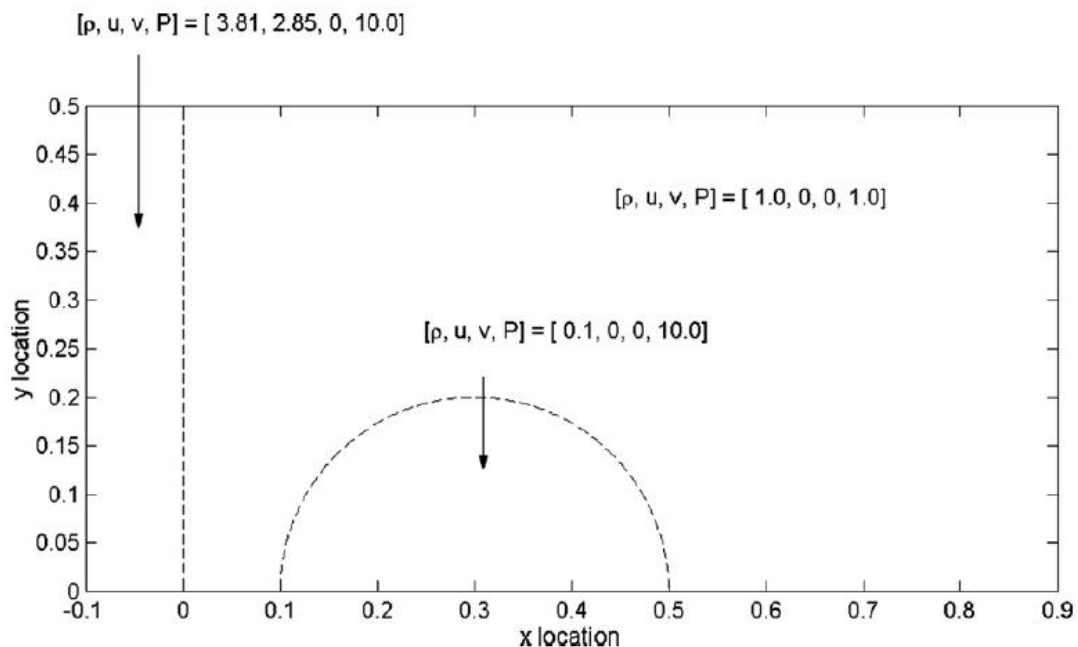

Figure 4: 2D Shock Bubble Interaction problem
5) Based on the solver developed in part (4), students should write a two dimensional compressible CFD solver to solve the shock bubble interaction problem shown in Figure 4. Students should write the code to be parallelizable using OpenMP and, if possible, GPU with CUDA. Students should show results after $t = 0.8$ using computation grids of 200×100 , 400×200 and 800×400 . Parallelization efficiency should be shown using 2, 4, 8 and 16 cores. This results should be shown during the 2nd progress report on the 2nd of December.
6) Using the CFD solver developed in part (5), students should write a three dimensional compressible flow solver to calculate flow around the X-37. This code should employ both OpenMP and CUDA for GPU parallelization. Students should report their results using at least 1 million computational cells. These may be Cartesian cells (i.e. a structured, rectangular grid), an AMR mesh or an unstructured tetrahedral grid. Results should be shown after the flow has reached a pseudo-steady state. The X-37 should have an angle of attack of 40 degrees, with an inflow velocity of 7000 m/s with a pressure and density corresponding to that of air at an altitude of 70 km.
7) Students should prepare a professional engineering report into the simulation of the X-37 as completed in task (6). This should include (i) a description of how the group solved the problem, (ii) a comparison of the planned project timetable (item 2) to the actual measured work progress, (iii) a flowchart showing your computational method, (iv) the derivation of the mathematical approach used for the computation, (v) the results – X, Y and Z velocity, temperature and pressure profiles for several slices of the 3D geometry, (vi) discussion into the parallel performance, and (vii) conclusions and discussions into the effectiveness of the group to complete the project.